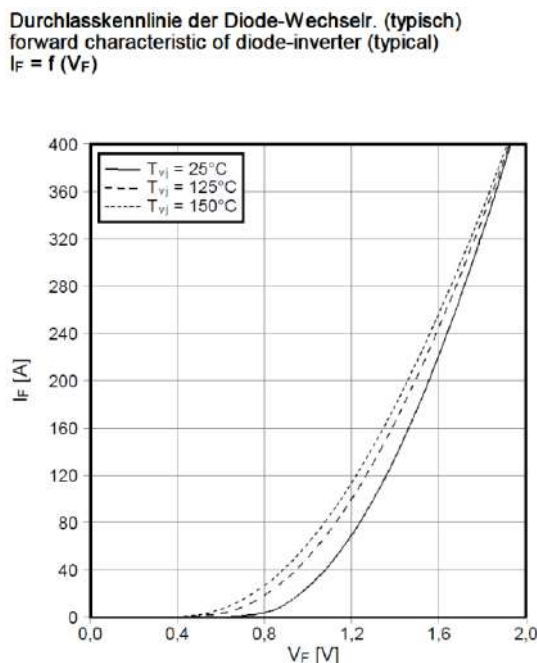

Figure 30: Forward characteristic of diode datasheet
The maximum permissible diode forward current rating can be calculated with equation (12). To give a current rating of a module, the corresponding junction and case temperature have to be specified, for example in Figure 30. Please note that current ratings without defined temperature conditions have no technical meaning at all. Since I_F is not known in equation (12), $V_F @ I_F$ is also not known, but can be found within a few iterations. The ratings of continuous collector current are calculated with maximum values for V_F to ensure the specified current rating, taking component tolerances into account.
Figure 30 depicts the typical forward characteristic of the implemented diode at different junction temperatures. A negative temperature coefficient of the diode's forward voltage drop can be observed, which is typical for minority-carrier devices. Therefore, the conduction losses of the diode decrease with increasing temperatures.